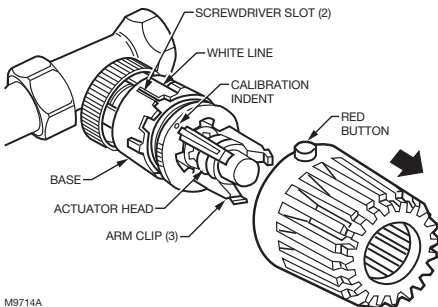

Fig. 7. Remove the knob from the actuator.
- b. Pull the knob off the head or use a screwdriver inserted into one of the slots to pry off the knob. See Fig. 7.
2. Pull the knob off the head or use a screwdriver inserted into one of the slots to pry off the knob. See Fig. 7.
3. Turn the actuator head clockwise until the head stops (Fig. 7). The calibration indent should be aligned approximately with the white line on the base when the head stops. If the indent is 180 degrees from the white mark, unscrew the head completely from the base and rethread the head